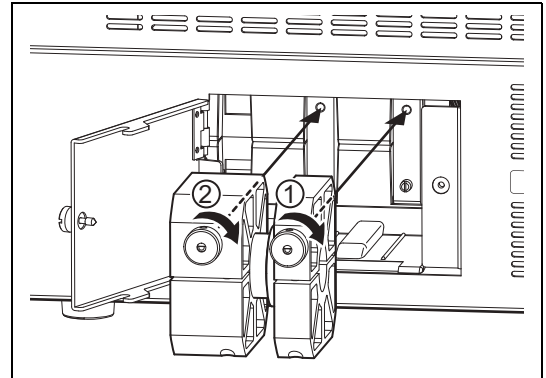

Figure 6.4
- 1 **Hold the lamp cartridge so that the two screws on the lamp cartridge are at the front and fully insert it into the housing while keeping it straight. (Refer to Figure 6.4.)**